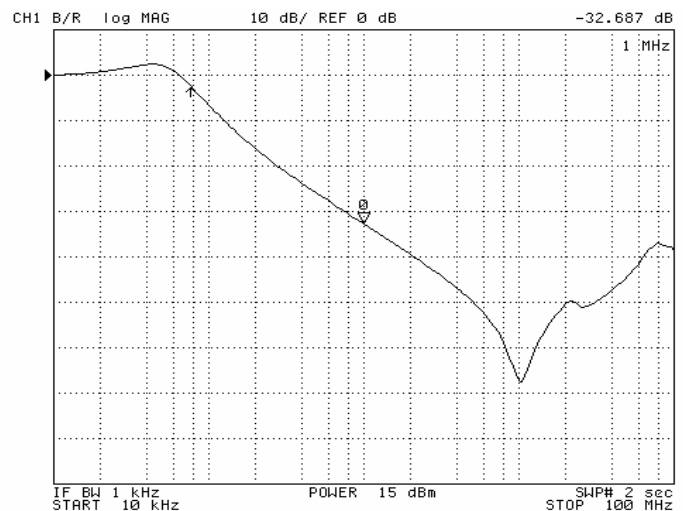

Fig. 4: F4810/F2410 - Common Mode attenuation, 0.2-100 MHz. Source and load resistances are 50 Ω . Two 0.1 μ F Y-
2. 50 Ω source and 50 Ω load impedance; external common-mode capacitors 0.1 μF (from IN+ and IN- to the common chassis). See Fig. 4 for attenuation in the 20 kHz-100 MHz frequency range.
Fig. 4 shows Common mode attenuation with 50 Ω source and load. The attenuation is the same for both filters, and depends on the value of external Y-capacitors, connected between input pins and frame or a reference ground.